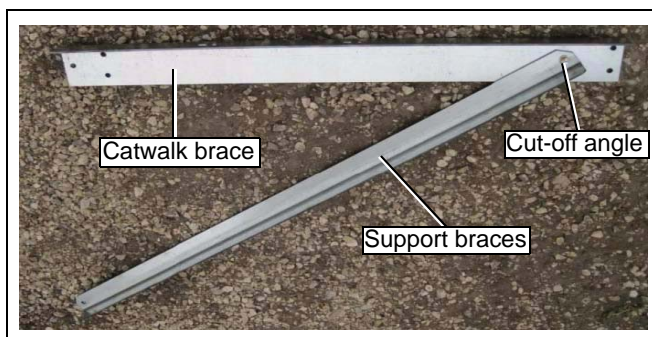
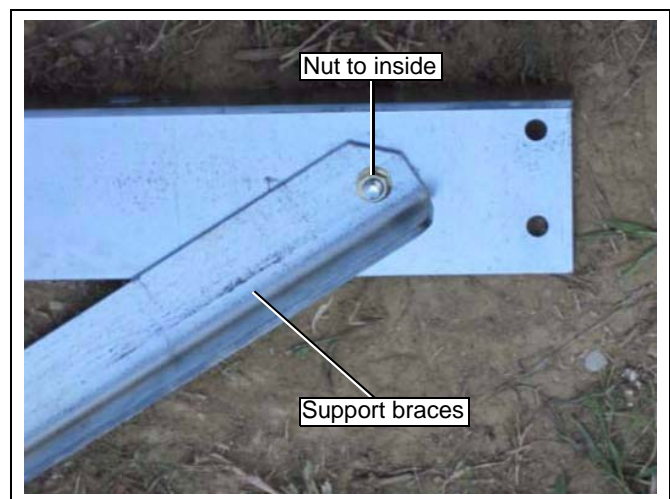

Figure 8S
Figure 8T
7. Assemble catwalk brace/support braces by connecting as shown in Figure 8S and Figure 8T using one nut and one bolt.
IMPORTANT: Finger-tighten only at this time so that the pieces act like a hinge. Place nut to the inside as shown in Figure 8S and Figure 8T. This helps prevent snagging.